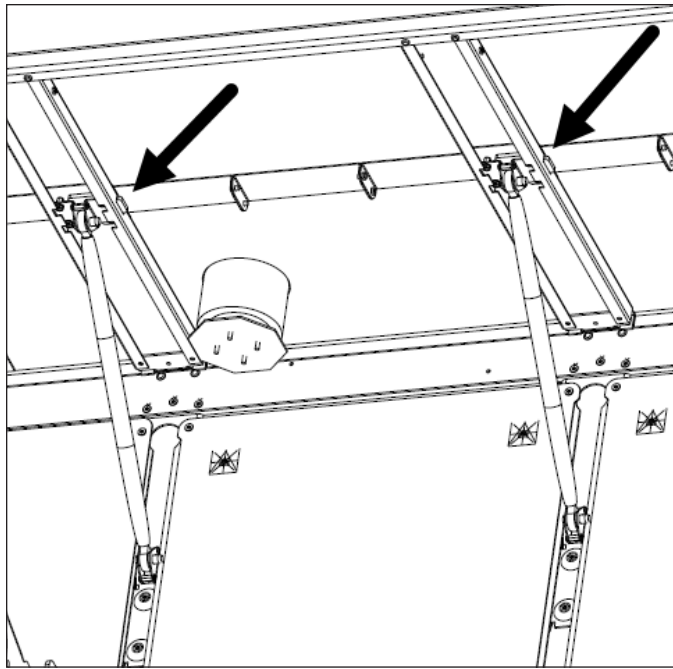

Figure 25: Ensure All Latches Engaged
10. Visually inspect each latch underneath the tabletop to ensure it is fully engaged. Refer to **Figure 25**. Apply firm pressure to the tabletop at each support location for additional verification that it is locked in place.